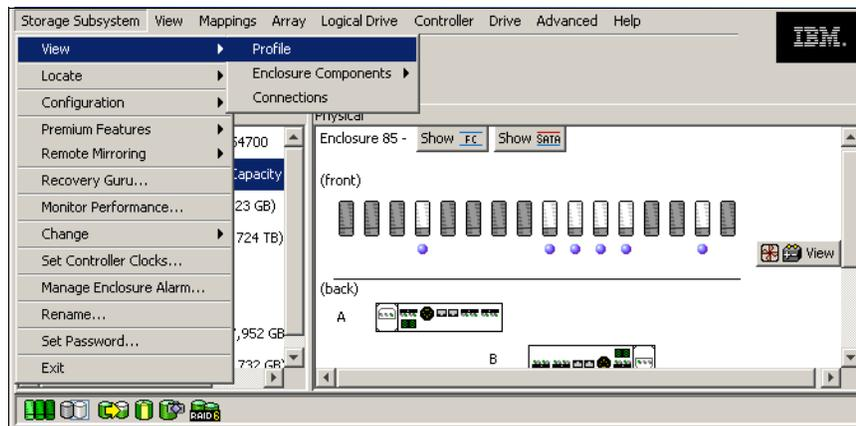

Figure 5-78 Viewing the Storage Subsystem profile
1. To obtain the profile, open the Subsystem Management window and click **Storage Subsystem** → **View** → **Profile**, as shown in Figure 5-78.